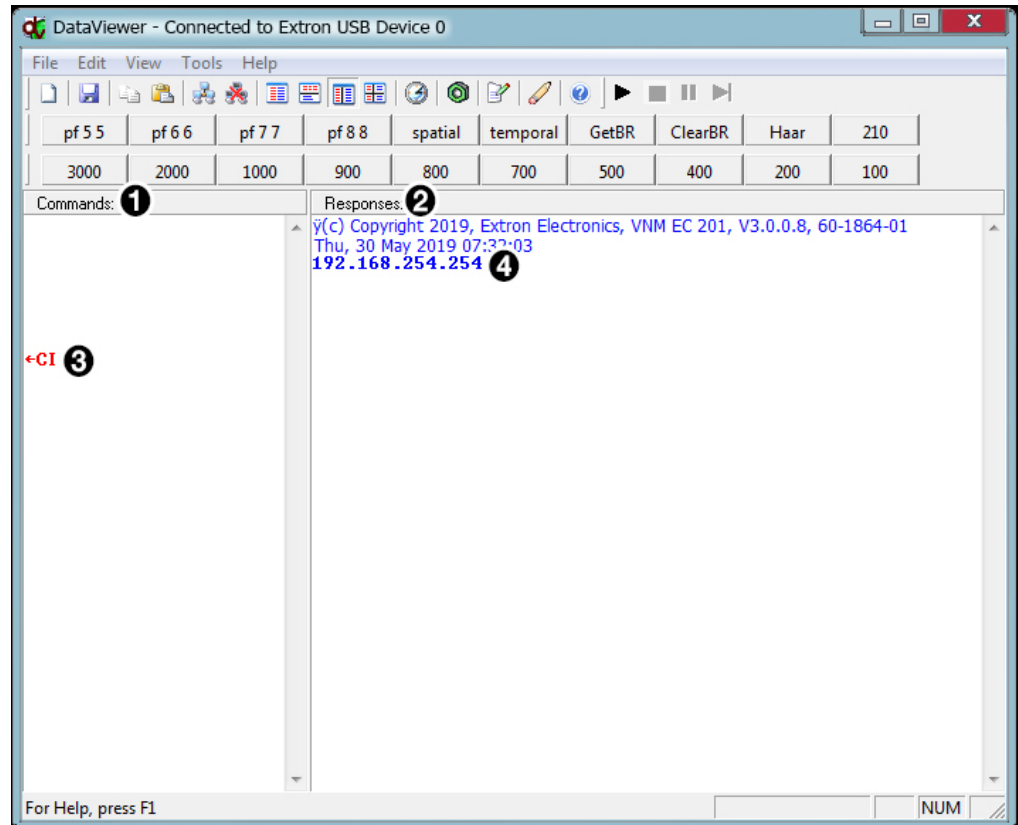

Figure 164. Enter Commands and View Responses
4. The main **DataViewer** dialog opens and the EC 201 responds with a copyright statement containing the model number, part number, and current firmware version of the connected EC 201, along with the date (see figure 164, ②).